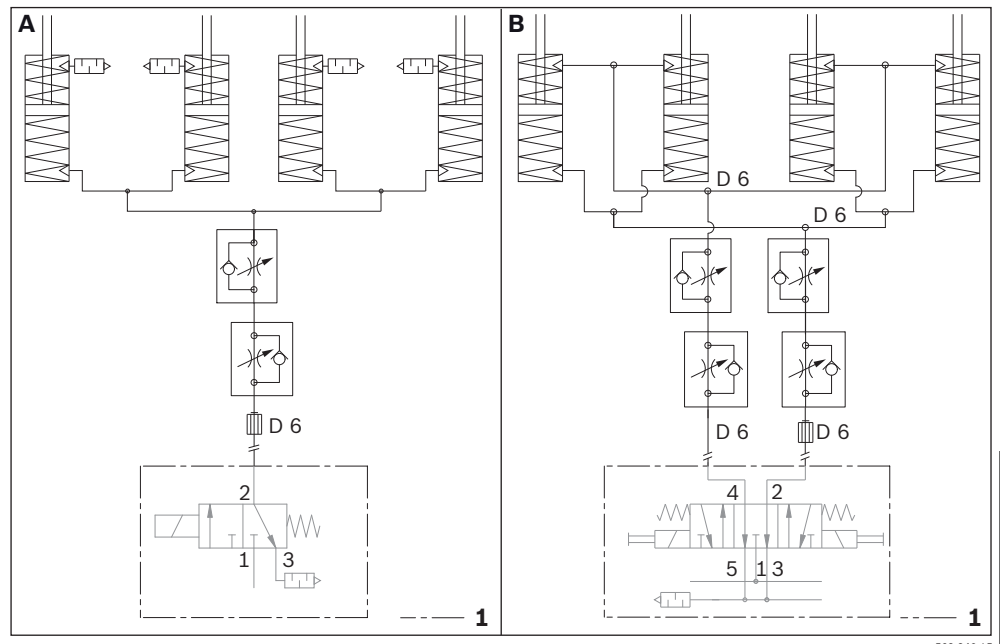

Fig. 25: Pneumatic diagram $b_L \times b_Q$ [mm]: 480 x ..., 640 x ..., 4 lift units
- Observe the electrical power requirement shown on the motor nameplate, see Fig. 25 on page 33.